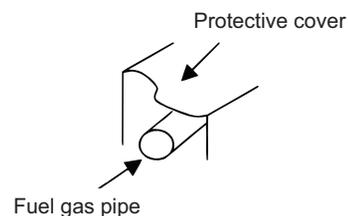

Fig. 10 Fuel pipe protection example
* In regions with heavy snowfall, take precautions to protect the fuel gas pipe path from snow damage (Fig. 10).